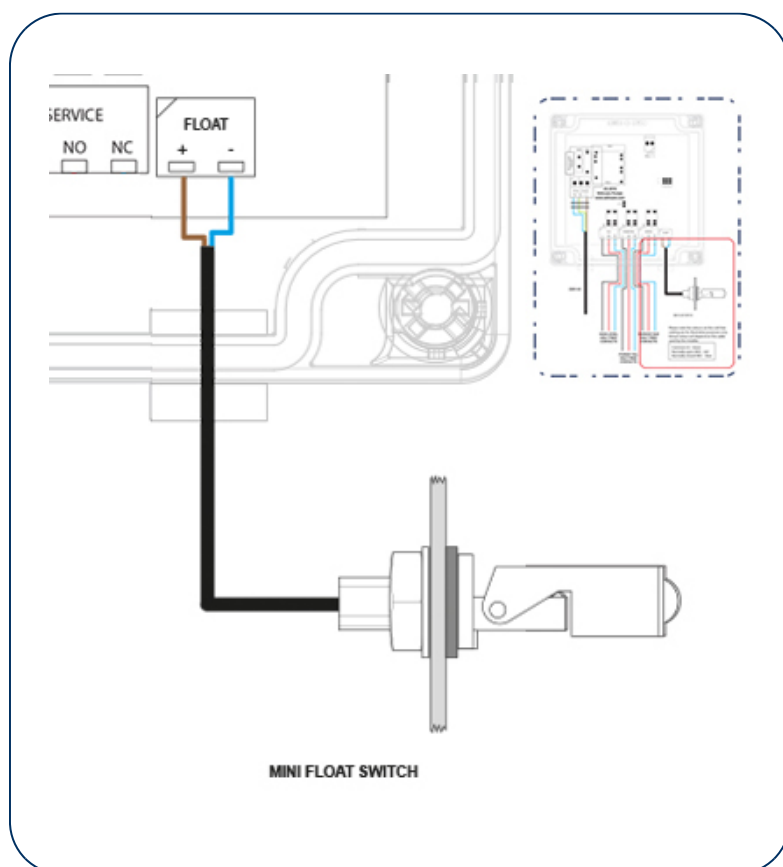

Fig.3 Connecting the Mini float switch to the AquaSafe Alarm
3. Connect the brown core to the positive and the blue core to the negative terminal, as shown in fig.3.